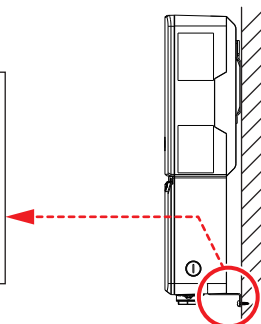

Figure 4-1 : Attaching the mounting bracket
- 3.Secure the reinforced bracket with 2 M6 screws as **Figure 4-1**.